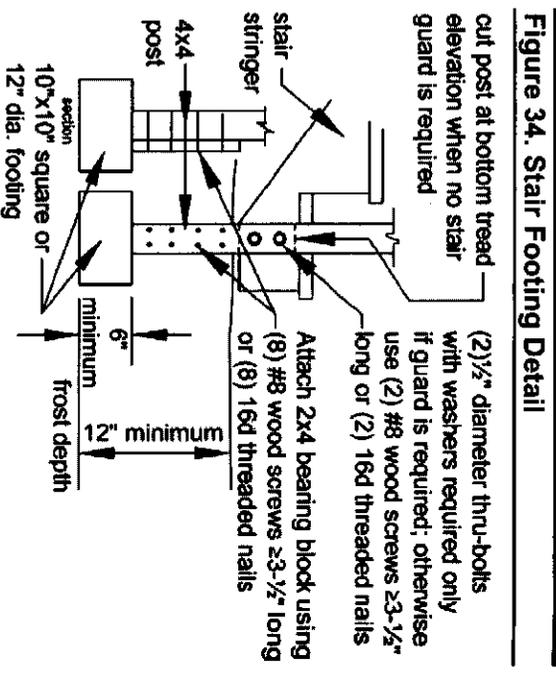

Figure 34. Stair Footing Detail
Stairs, stair stringers, and stair guards shall meet the requirements shown in Figure 27 through Figure 34 and Table 6 except where amended by the local jurisdiction. All stringers shall be a minimum of 2x12. Stair stringers shall not span more than the dimensions shown in Figure 28. If the stringer span exceeds these dimensions, then a 4x4 post may be provided to support the stringer and shorten its span length. The 4x4 post shall be notched and bolted to the stringer with (2) 1/2" diameter through-bolts with washers per Figure 8. The post shall be centered on a 12" diameter or 10" square, 6" thick footing. The footing shall be constructed as shown in Figure 34 and attached to the post as shown in Figure 12. An intermediate landing may also be provided to shorten
Where the stairway meets grade, attach the stringers to the stair guard posts as shown in Figure 34. Posts shall bear on footings. All footings shall bear on solid ground and shall be placed at least 12 inches below the undisturbed ground surface or below the frost line, whichever is deeper (see Figure 34). Stringers shall bear on a 2x4 bearing block attached to the post as shown. Stringers shall not bear on new or existing concrete pads or patios that are not founded below this depth. When guards are not required (see GUARD